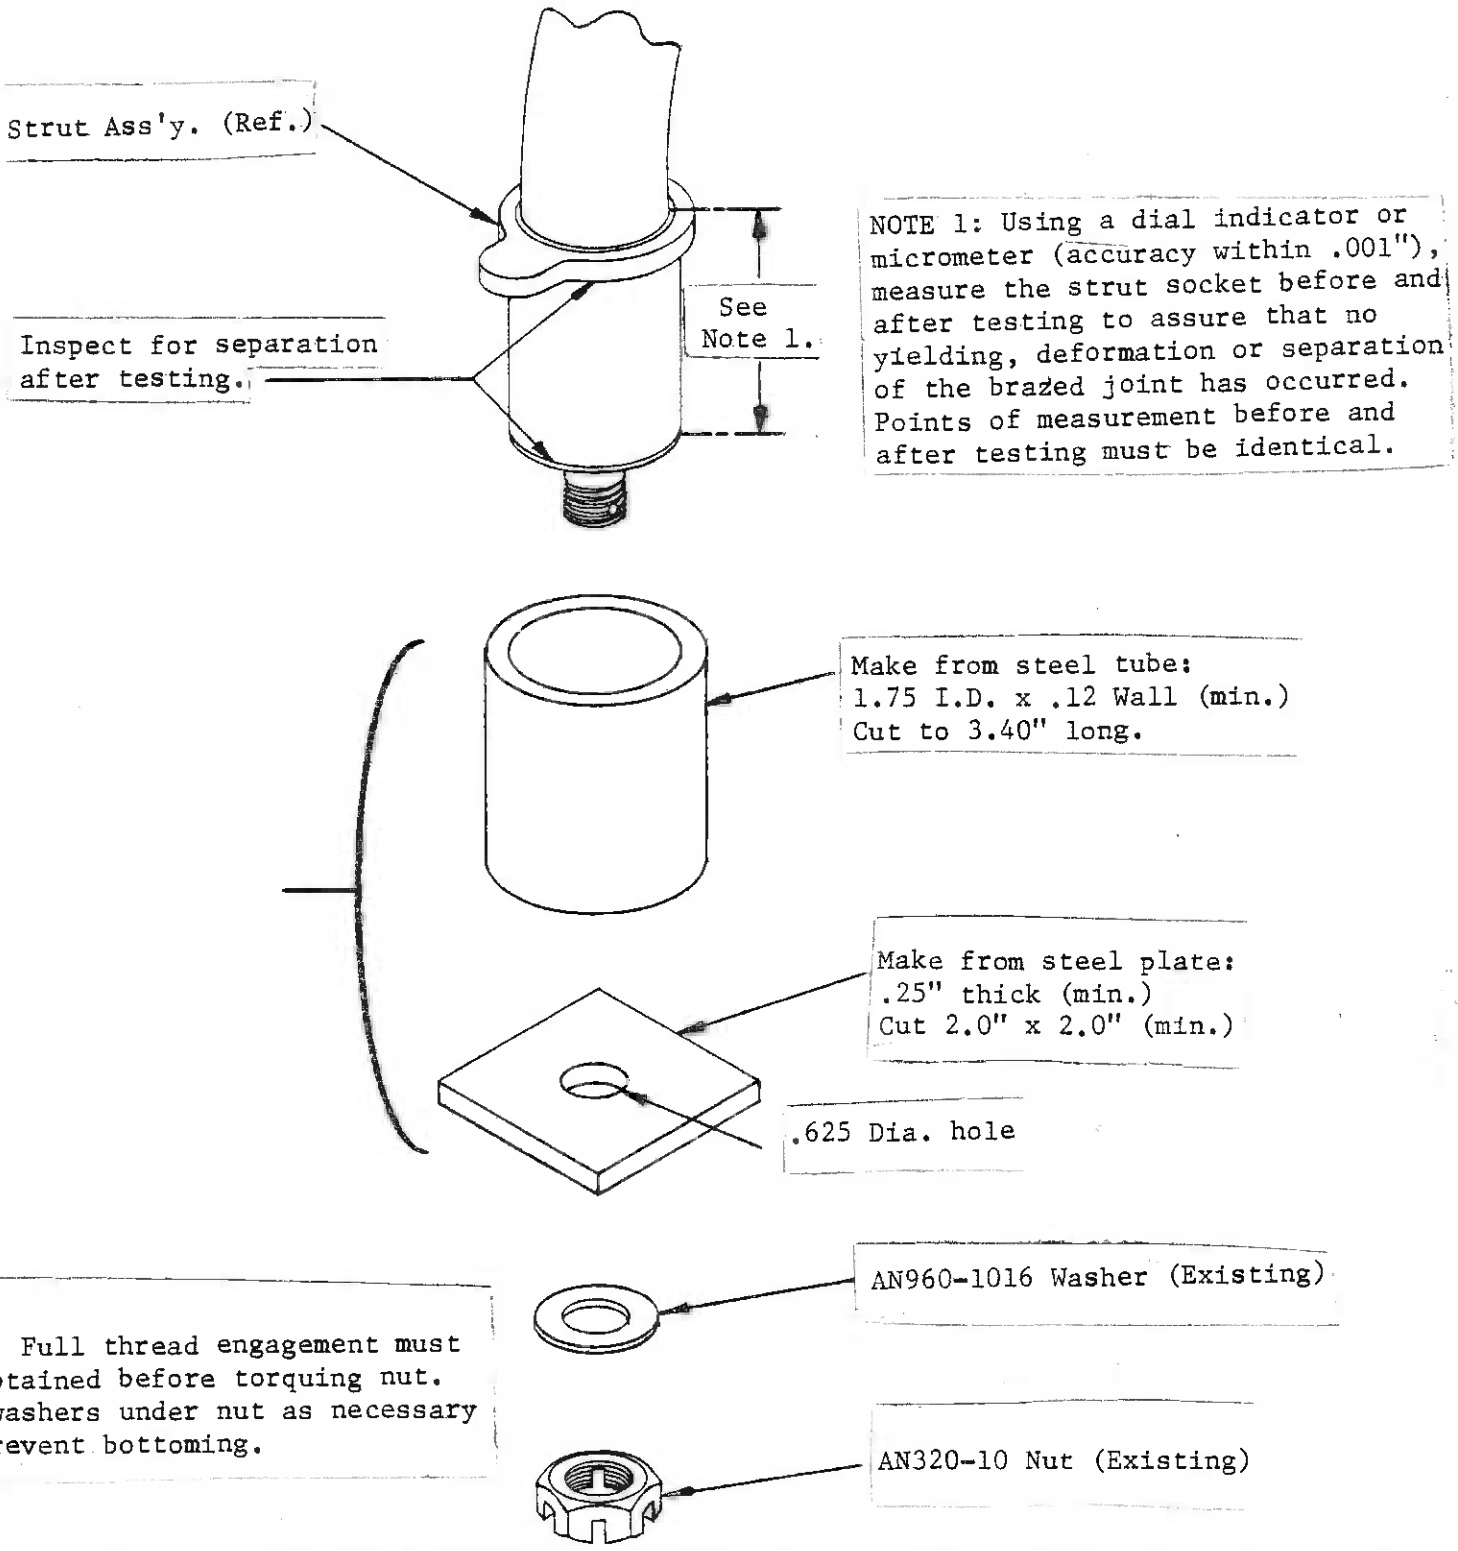

FIGURE 1. Assembly of Test Fixture
NOTE: A test fixture as shown in Figure 1 may be fabricated locally. One fixture, tool no. ST1086-501, will be forwarded to each dealer by January 9, 1971 at no charge.
1. Remove the nose gear fork assembly and "O" ring noting sequence of assembly of washers. Do not misplace thrust washer located between strut socket and fork. See Note 1, Figure 1.
3. Remove test fixture and inspect the strut socket assembly brazed joints as shown in Figure 1. If there is any evidence of difference in measurement before and after test, the strut must be replaced. See Note 1, Figure 1.